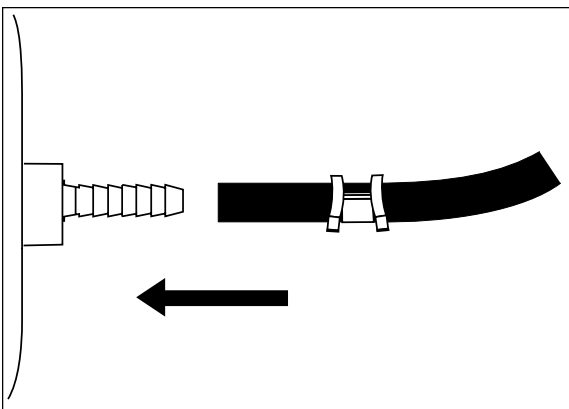

Figure 4
- h. Push the air line onto the stem, covering all the barbs (Figure 4).